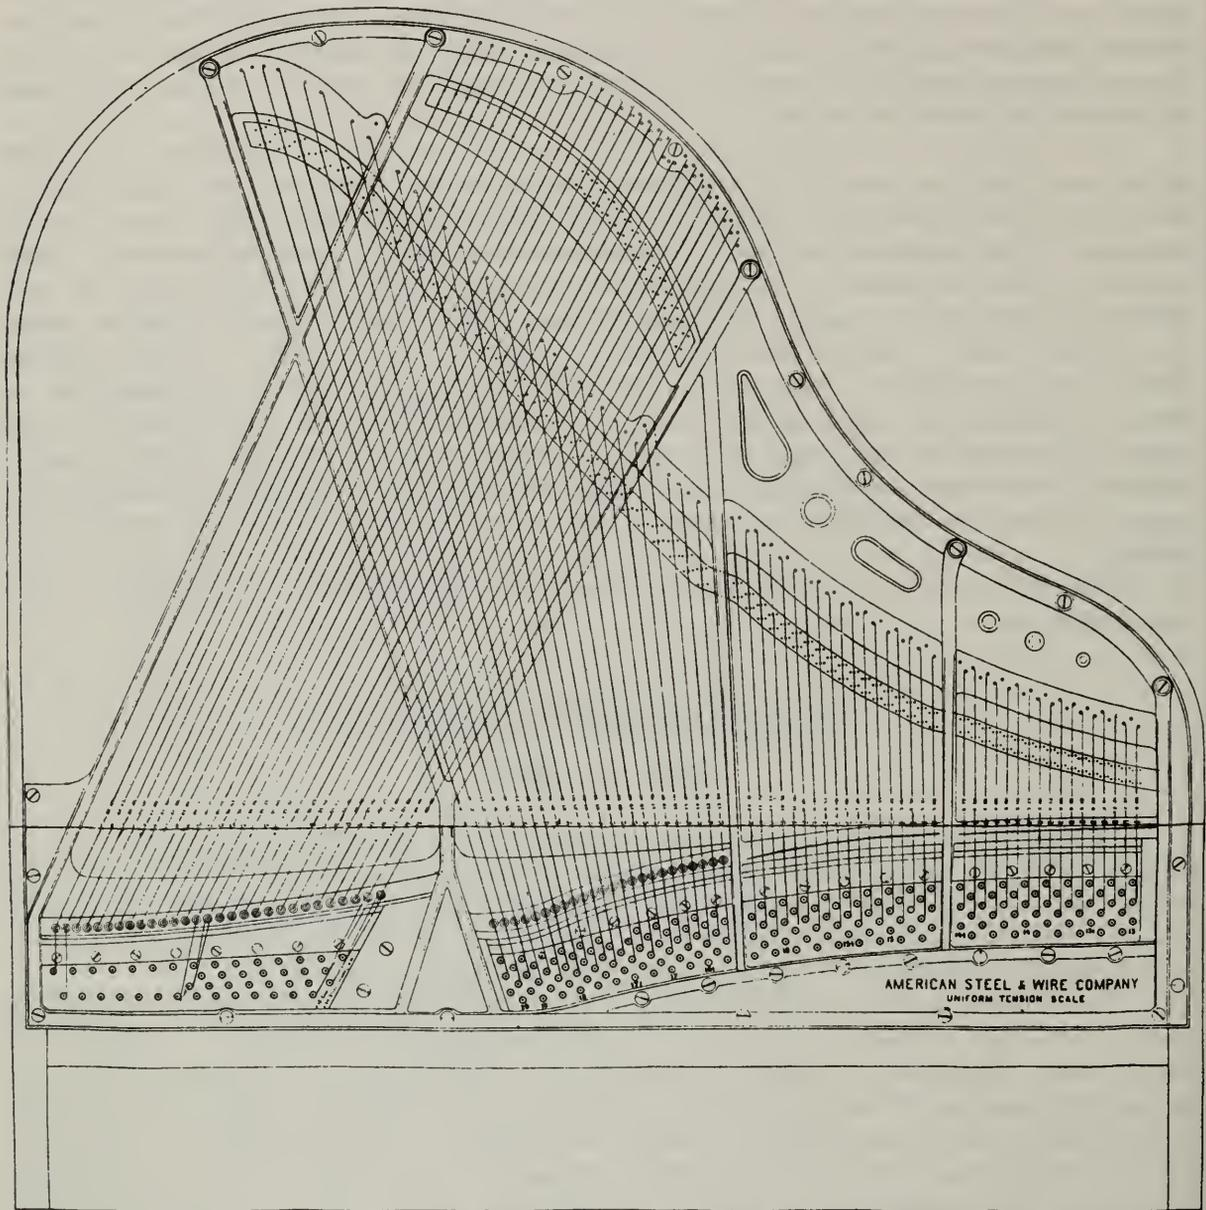

FIG. 33
F. E. Morton, chairman, in announcing the subject "Small Grand Construction," exhibited a scale drawing (Fig. 33), a cross section drawing showing action placement (Fig. 34), and a strung plate identical with the small grand exhibited at a prior meeting. He explained that the new scale was expected to show an improvement over the first in that the tension on the bass section was graduated from 160 pounds to 170 pounds. He further stated: